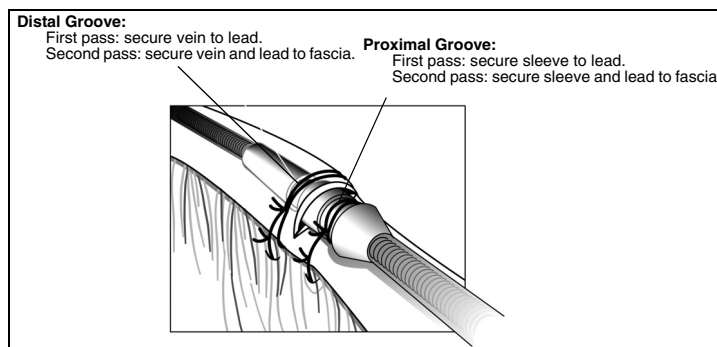

**Figure 14.** Using the sleeve with the percutaneous implant technique.
1. Peel back the introducer sheath and slide the suture sleeve deep into the tissue (Figure 14).